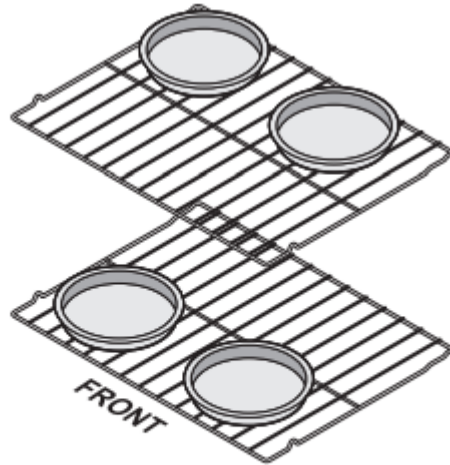

Figure 12: Pan positions two rack baking
- When baking cakes using two oven racks, position cookware as shown in Figure 12. Allow at least 2 inches (5 cm) of space between cookware for proper air circulation